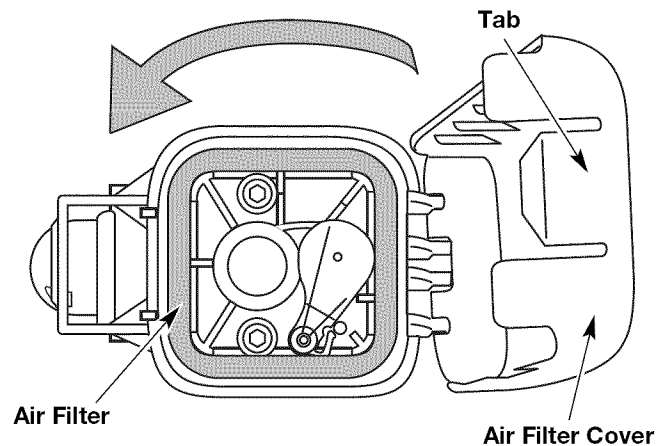

Fig. 26
8. Swing the cover to the left until the tab on the air filter cover snaps into place in the slot on the back plate (Fig. 26).